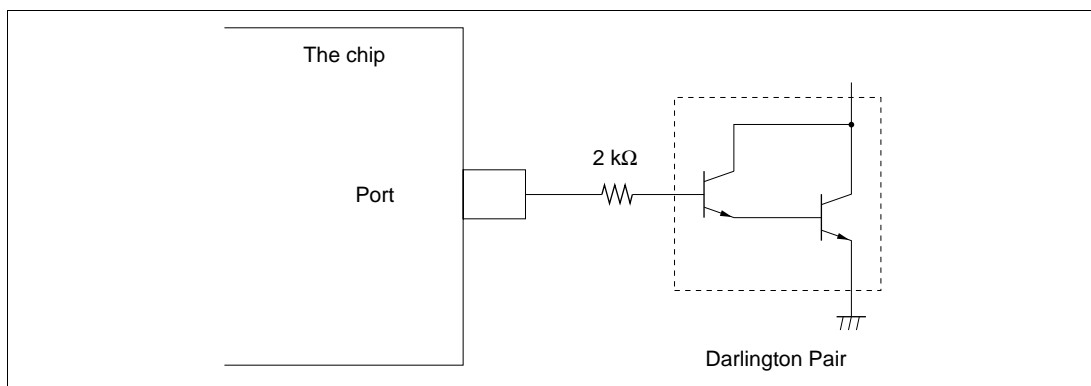

Figure 22-65 Darlington Pair Drive Circuit (Example)
2. When driving a darlington pair or LED directly, always insert a current-limiting resistor in the output line, as show in figures 22-65 and 22-66.